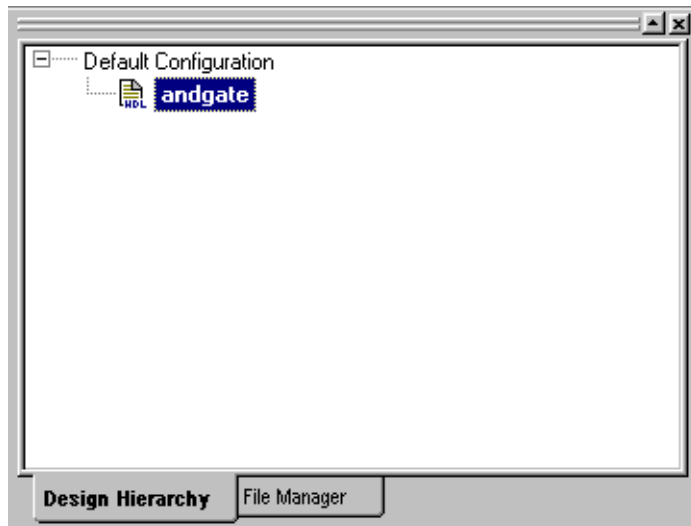
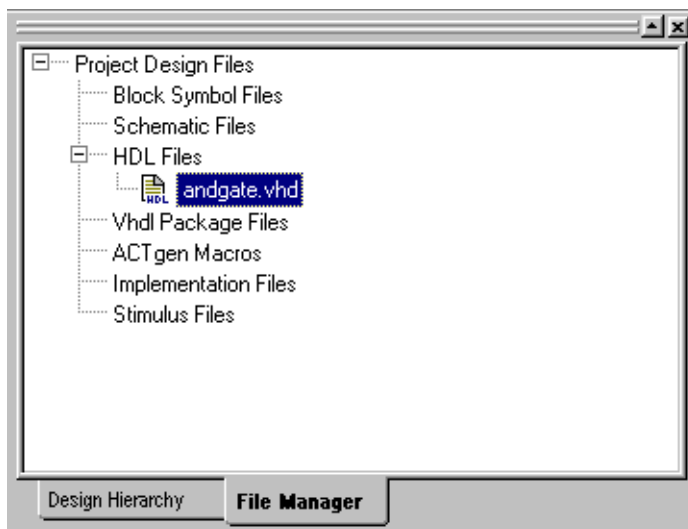

Figure 5-3. Design Hierarchy Tab
Figure 5-4. File Manager Tab
11. From the **File** menu, click *Save*. The design file “andgate” will now appear under the Design Hierarchy tab in Libero IDE as shown in Figure 5-3. The file name “andgate.vhd” is listed under HDL files in the File Manager tab in the Libero IDE, as shown in Figure 5-4.